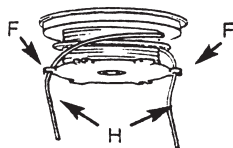

Fig. 19.
6. Press the ends of the line into the slots on opposite sides of the spool as fig.19 shows.